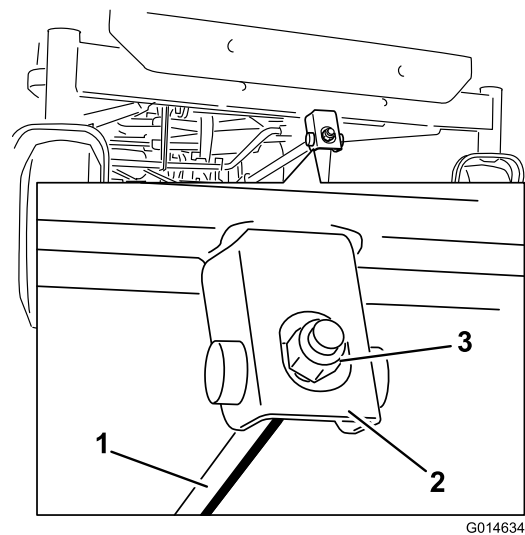

Figure 71
- A. Rotate the adjustment nut in the front of the mower (Figure 71).